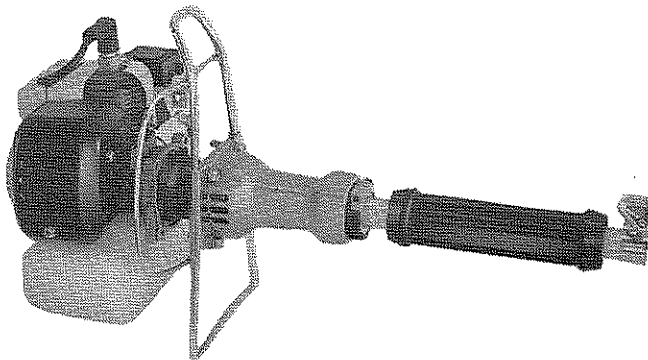

Figure 2
2. Install stand as shown in figure 2 by aligning clutch housing with locating plate.